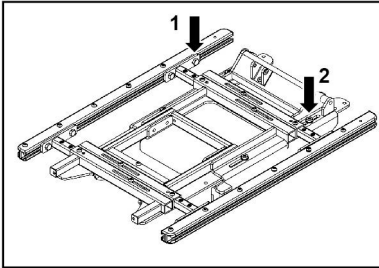

Fig D2-2
(2) Use a hex open-end wrench to loosen the No. 1 hex screw(total 8 pcs) without removing it.(Fig D2-2)
(3) Use a hexagon wrench to remove the No. 2 socket screw(total 4 pcs). (Fig D2-2)
(4) Move the No. 3 chair frame group forward or backward to the desired position, 14"~20" can be adjusted, and each 1" can be adjusted.